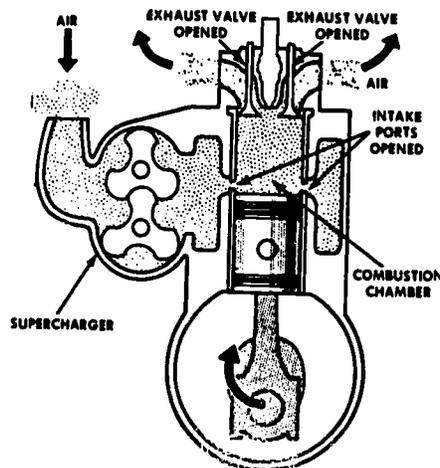

Fig 3-5. Positive displacement blower.
- The blower used on military vehicles is the "ROOTES" type (fig 3-5). It consists of two rotors closely meshed and is gear driven from the engine. This positive displacement blower causes air to be forced into the engine cylinders. The effect is the same as with a turbocharger.